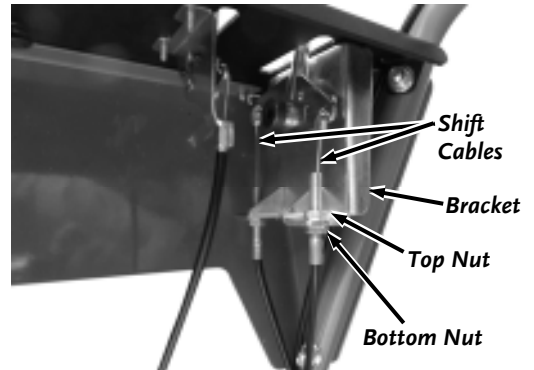

Figure 56
1. Locate the Shift Cable Adjustment Nuts on the Shift Lever end of the cable (**Figure 56**).